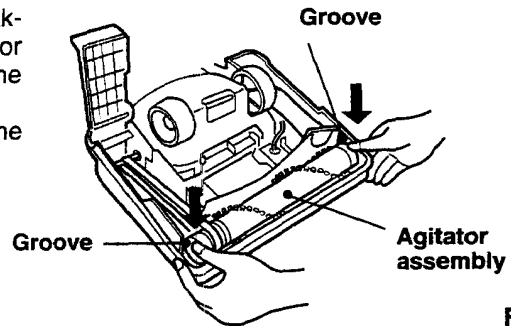

Fig. 26
- 4 Then reinsert the agitator assembly, making sure that both ends of the agitator assembly are fitted into the groove of the nozzle head. (Fig. 26)